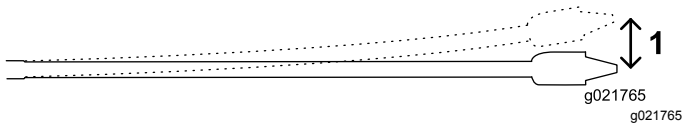

Figure 28
The 3 m (10 ft) pipes used on this machine can flex to an 8% pitch over the length of the pipe; this equates to a bend of no more than 20 cm (8 inches) off a straight path (Figure 28).
- Insert the first 3 m (10 ft) of drill bit/pipe into the ground with no steering. The end of the drill bit will be 76 cm (30 inches) deep (Figure 28).